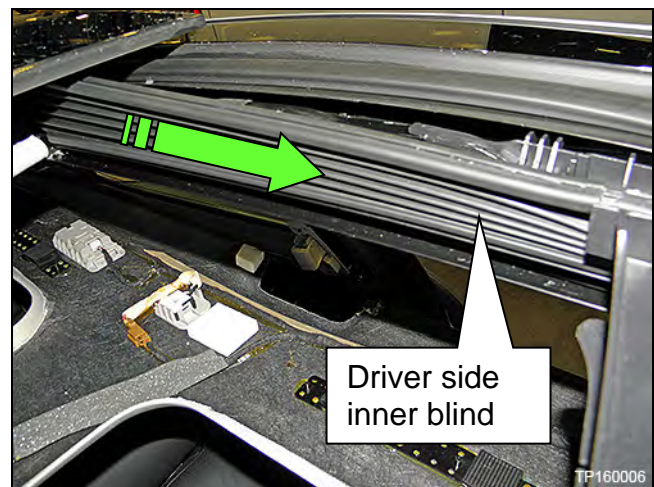

Figure 16
- e. Slide each inner blind toward the front of the vehicle and off of the Moonroof guides (Figure 16).
NOTE: Figure 16 is shown from inside the vehicle.